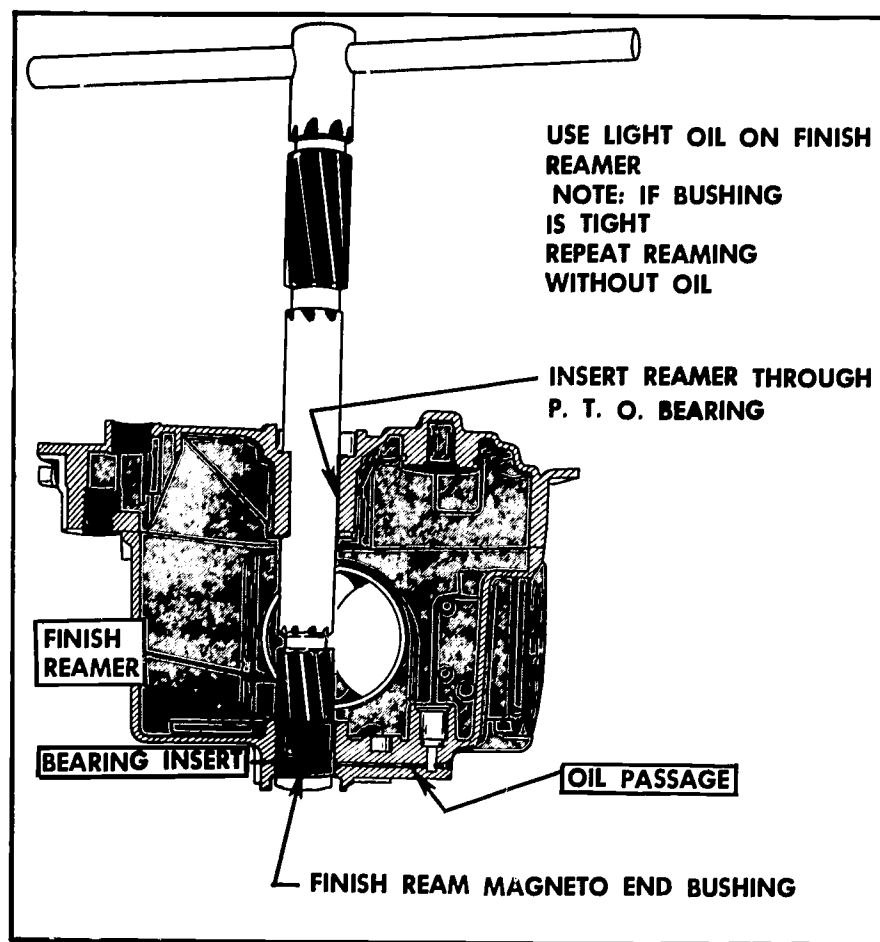

FIGURE 318. Reaming the front bearing.
9. *Ream the new bearing insert (Figure 318).*